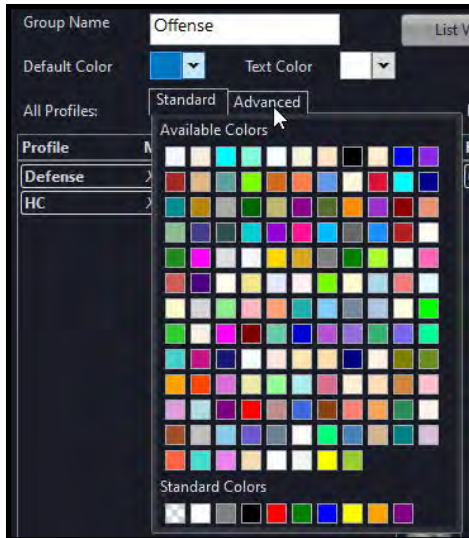

Figure 99: Editing Group Colors
6. Open the drop-down color pickers in the Color and Text Color fields, and choose a color to represent the group (see Figure 99). This color choice appears on the RP Icons (X-Ware's Home screen) for profiles with the group assignment.